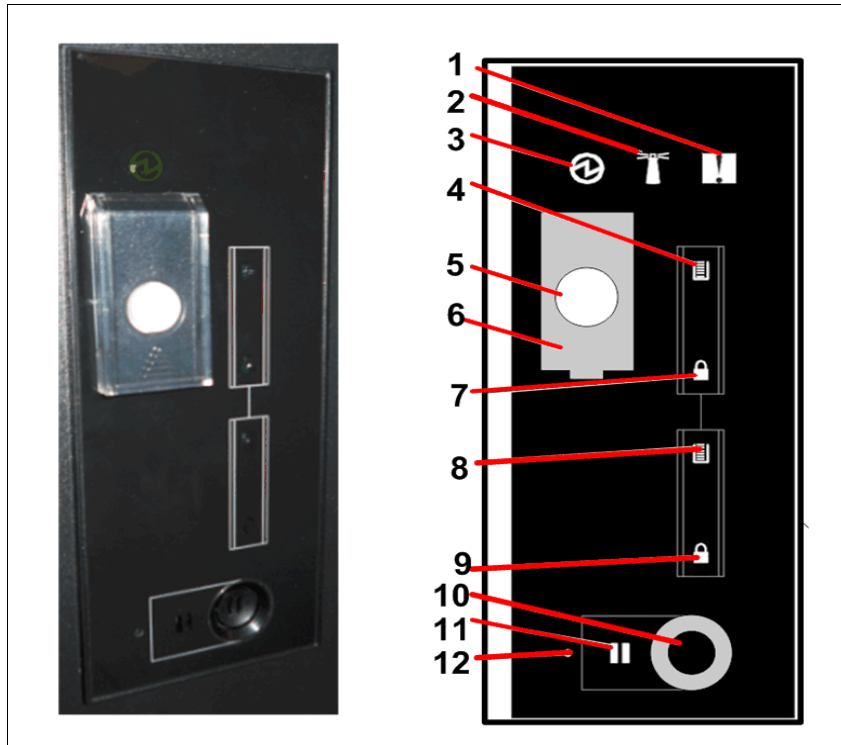

Figure 1-43 Display panel
The display panel on the base frame of the TS4500 tape library houses the library power and pause buttons. It displays library and I/O status indicators, as shown in Figure 1-43.
You pause the library by pressing the pause button on the display panel (number 10 on Figure 1-43 on page 48) on the base frame of your TS4500 tape library. This pause button causes the library to move the cartridge accessor to the base frame and pause operations for 30 seconds or while a frame door is open. The pause light next to the pause button stops blinking, and it illuminates solid to indicate that the library is paused (number 11 on Figure 1-43 on page 48).
- ▶ From the display panel on the base frame of the library, slide the plastic cover that protects the power button up to expose the button (number 6 on Figure 1-43 on page 48).
- ▶ Press the power button (number 5 on Figure 1-43 on page 48) and wait to see that the green power indicator turns on and stays on.
- ▶ Pause the library by pressing the pause button on the display panel (number 10 on Figure 1-43 on page 48) on the base frame of your TS4500 tape library. This pause button causes the library to move the cartridge accessor to the base frame and pause operations for 30 seconds or while a frame door is open. The pause light next to the pause button stops blinking, and it illuminates solid to indicate that the library is paused (number 11 on Figure 1-43 on page 48).
- ▶ Press the power button (number 5 on Figure 1-43 on page 48) and wait until the green power indicator light turns off.